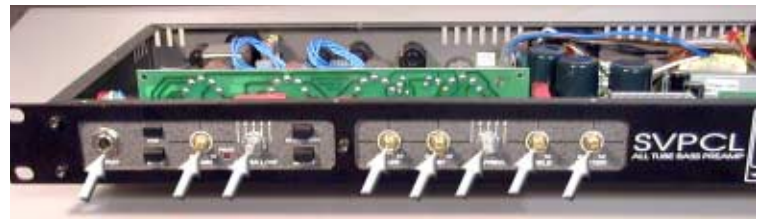
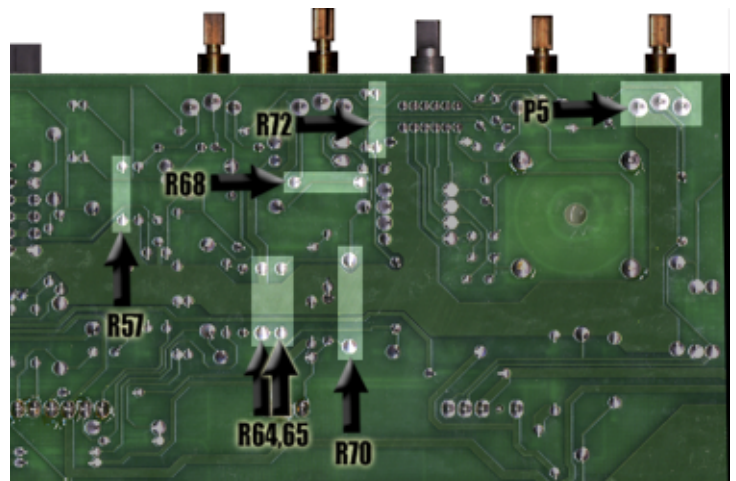

Figure 2: Remove front panel knobs, nuts
Figure 4: Locations of components to remove - also see figure 5
2) Remove the knobs and mounting nuts from the front panel pots. Remove the mounting nut from the input jack (see Figure 2).
5) Locate, unsolder and remove the following components: R57, R72, R70, R65, R64, R68, and P5 (see Figures 4 and 5). Use the X-Acto knife to cut away any RTV shock mount material which may be in the way. ***Remove only enough of the material to allow removal of the affected components!***
7) Reinstall the PCB into the chassis: replace the nylon washers onto SW2 and SW4, replace the lock washer onto the input jack. Align the PCB carefully before replacing the pot and input jack hardware (refer to Figure 2). Install but do not tighten the PCB mounting screws (refer to Figure 4). To assure the PCB is properly reinstalled, tighten the input jack and pot hardware before tightening the PCB mounting screws.